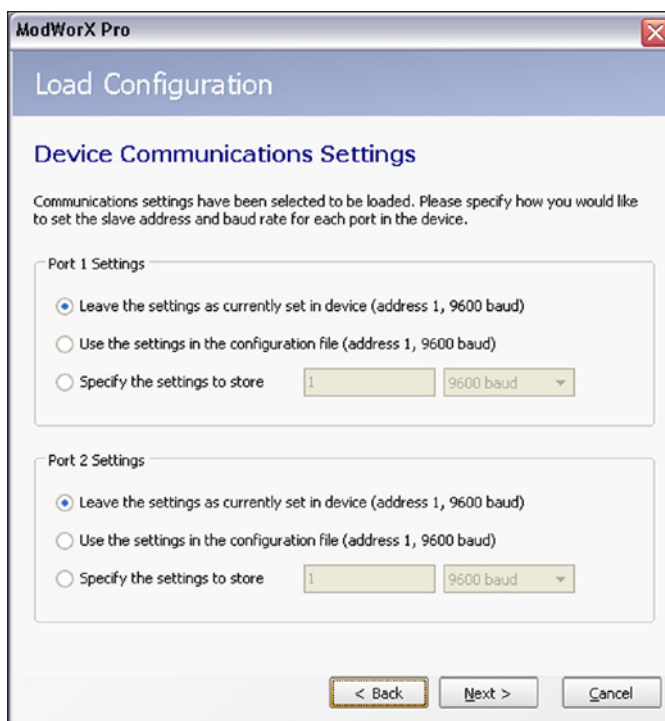

Figure A.5
6. Click **Next**. If Configuration settings were selected for upload, a Device Communications Settings screen will appear (Figure A.5). Enter slave address and baud rate settings for Ports 1 and 2 of the device being configured. If only calibration settings, gas composition settings, or custom settings are being uploaded, the Device Communications Settings screen will not appear.